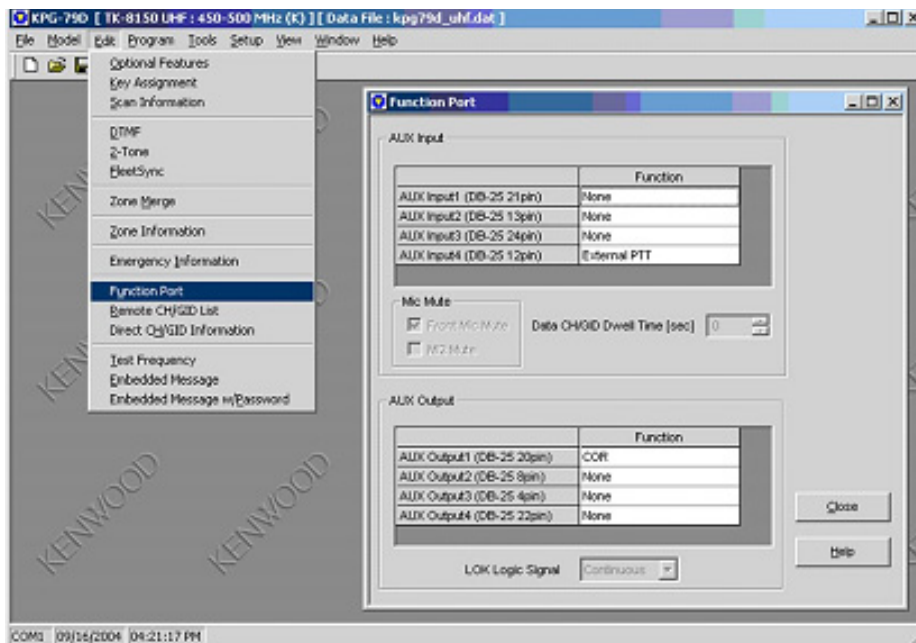

FIGURE 15. TK-x150/180 AUX Input
1. Program **Function Port, Aux Input** for **External PTT** in **AUX Input 4** location and **COR** in **AUX Output 1** (Figure 15).